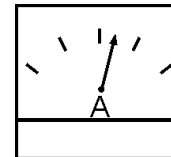

Figure 46. Ammeter (Load)
11. Observe the generator's ammeter (Figure 46) and verify it reads the anticipated amount of current with respect to the load. The ammeter will only display a current reading if a load is in use.